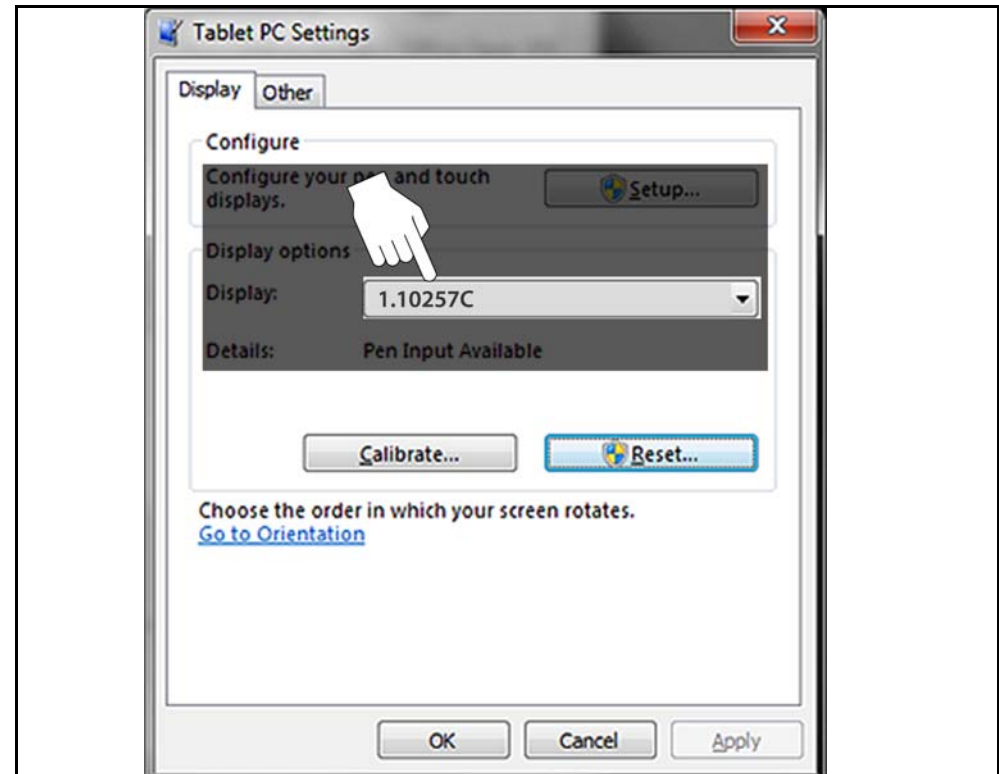

Figure 1-15 Typical - Tablet PC Settings window
The Tablet PC Setting window is displayed (Figure 1-15).
2. Select the diagnostic tool display from the dropdown list. The current default diagnostic tool display number "1.10257C" is shown in Figure 1-15 as an example.